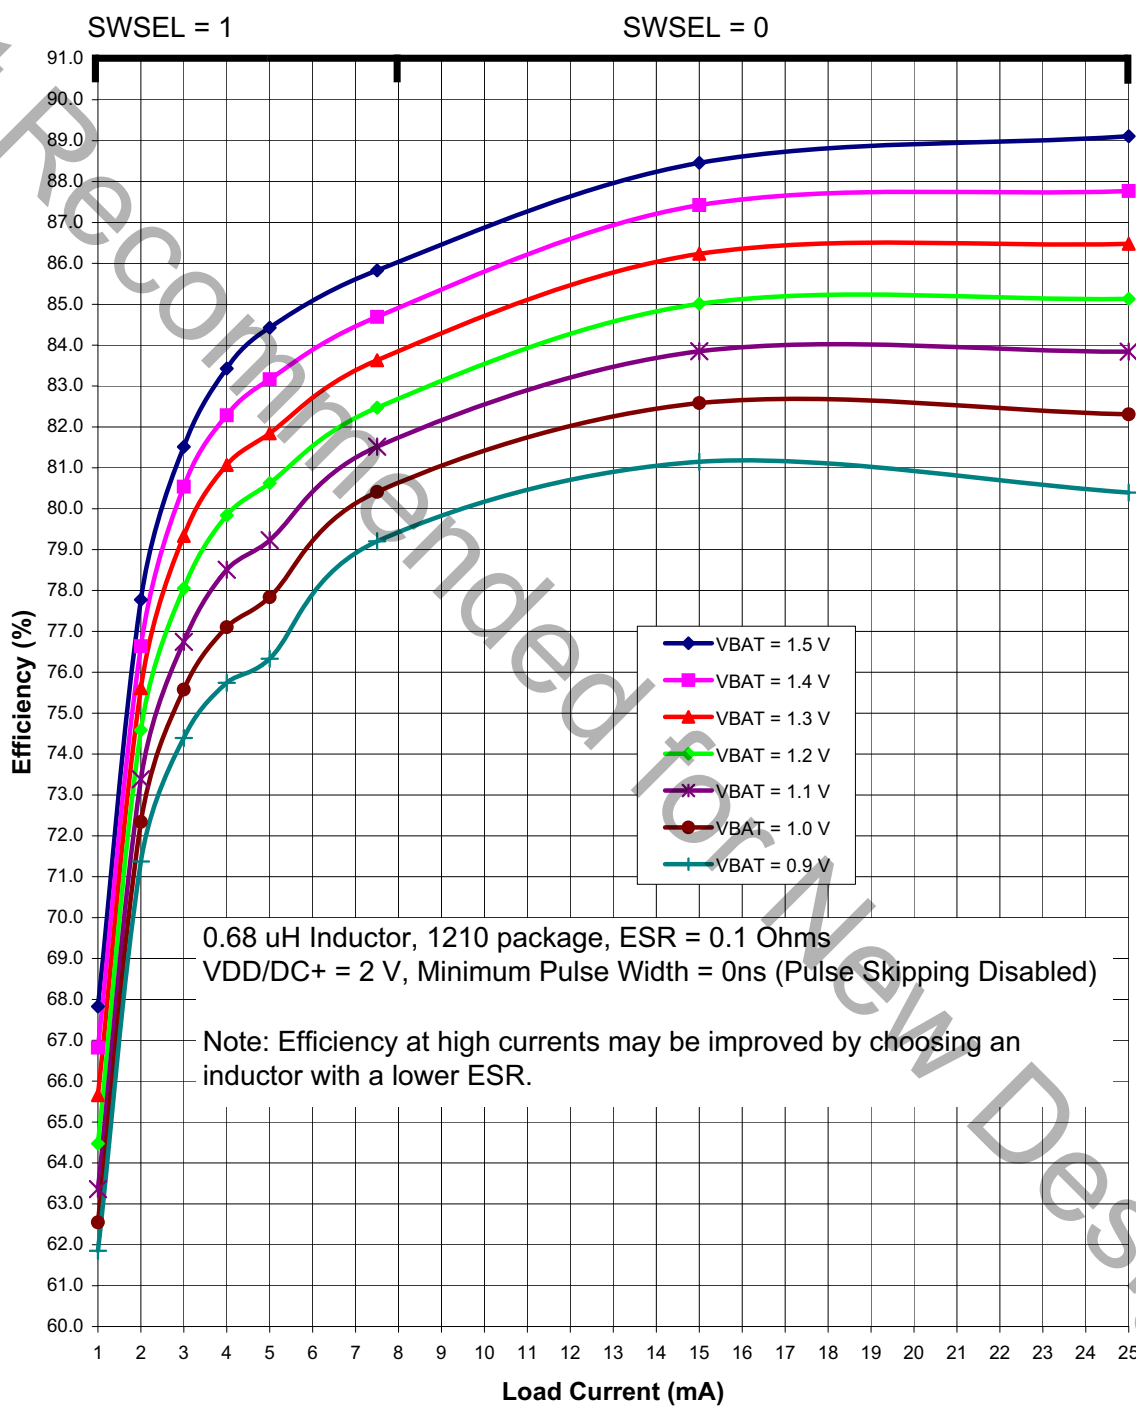
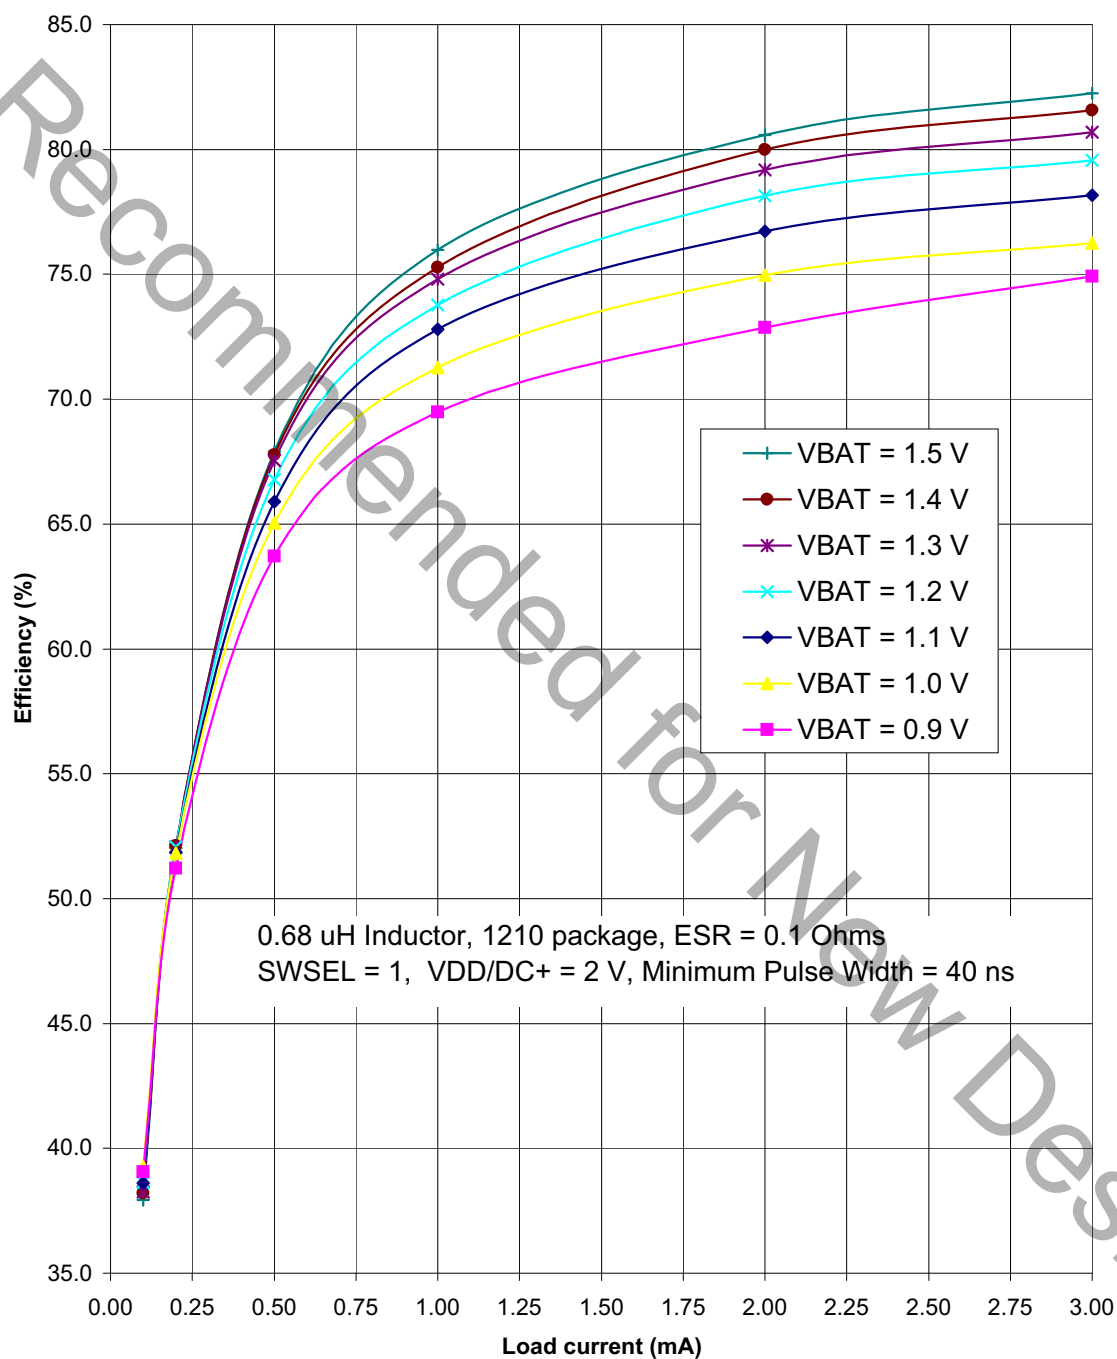

Figure 4.3. Typical DC-DC Converter Efficiency (High Current, VDD/DC+ = 2 V)
Figure 4.5. Typical DC-DC Converter Efficiency (Low Current, VDD/DC+ = 2 V)
Notes: 1. Based on device characterization data; Not production tested. 2. SYSCLK must be at least 32 kHz to enable debugging. 3. Digital Supply Current depends upon the particular code being executed. The values in this table are obtained with the CPU executing an "sjmp \$" loop, which is the compiled form of a while(1) loop in C. One iteration requires 3 CPU clock cycles, and the flash memory is read on each cycle. The supply current will vary slightly based on the physical location of the sjmp instruction and the number of flash address lines that toggle as a result. In the worst case, current can increase by up to 30% if the sjmp loop straddles a 128-byte flash address boundary (e.g., 0x007F to 0x0080). Real-world code with larger loops and longer linear sequences will have few transitions across the 128-byte address boundaries. 4. Includes oscillator and regulator supply current. 5. IDD can be estimated for frequencies ≤10 MHz by simply multiplying the frequency of interest by the frequency sensitivity number for that range, then adding an offset of 90 µA. When using these numbers to estimate IDD for >10 MHz, the estimate should be the current at 25 MHz minus the difference in current indicated by the frequency sensitivity number. For example: VDD = 3.0 V; F = 20 MHz, IDD = 4.1 mA – (25 MHz – 20 MHz) x 0.120 mA/MHz = 3.5 mA. 6. The Supply Voltage is the voltage at the VDD_MCU pin, typically 1.8 to 3.6 V (default = 1.9 V). Idle IDD can be estimated by taking the current at 25 MHz minus the difference in current indicated by the frequency sensitivity number. For example: VDD = 3.0 V; F = 5 MHz, Idle IDD = 2.5 mA – (25 MHz – 5 MHz) x 0.095 mA/MHz = 0.6 mA. 7. The supply current specifications in Table 4.2 are for two cell mode. The VBAT current in one-cell mode can be estimated using the following equation: $\text{VBAT Current (one-cell mode)} = \frac{\text{Supply Voltage} \times \text{Supply Current (two-cell mode)}}{\text{DC-DC Converter Efficiency} \times \text{VBAT Voltage}}$ The VBAT Voltage is the voltage at the VBAT pin, typically 0.9 to 1.8 V. The Supply Current (two-cell mode) is the data sheet specification for supply current. The Supply Voltage is the voltage at the VDD/DC+ pin, typically 1.8 to 3.3 V (default = 1.9 V). The DC-DC Converter Efficiency can be estimated using Figure 4.3–Figure 4.5. 8. The radio peripheral is placed in Shutdown mode.